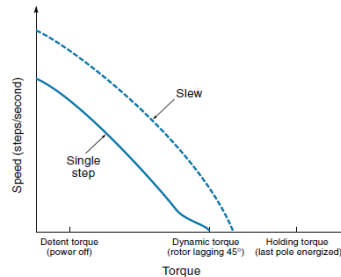

Figure 3.10: Torque-speed curves for single-step and slew modes.
- **holding torque:** The highest stall torque shown in Figure 3.10